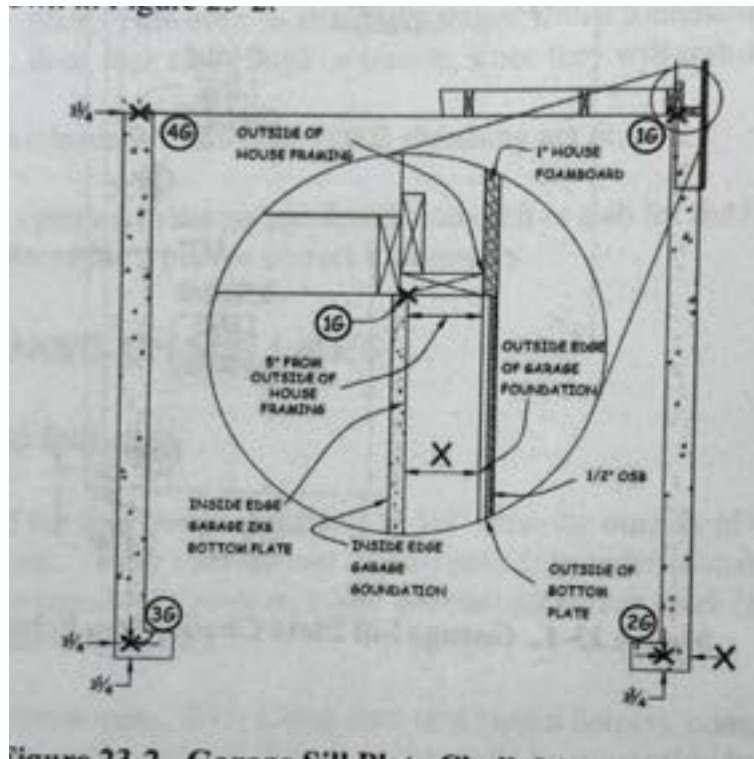

Figure 3-8. Continuing Wall Layout to Attached Garage.
9. For homes with an attached garage, continue laying out stud locations per Figure 3-8.
5. When complete, label upper and bottom plates. Mark compass orientation and label both plates and deck with an identifying number (see Figure 3-8).